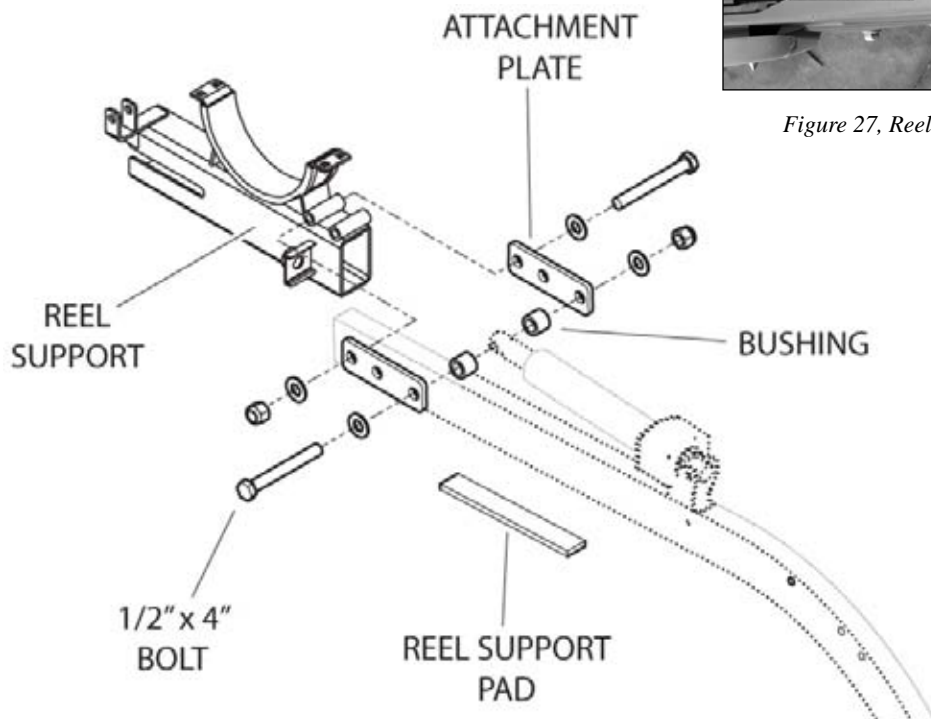

Figure 25, Reel support installation (LH arm shown)
- Slide a reel arm support pad (Figure 25) inside the LH reel support. The pad is held in place by two metal tabs on the reel support.